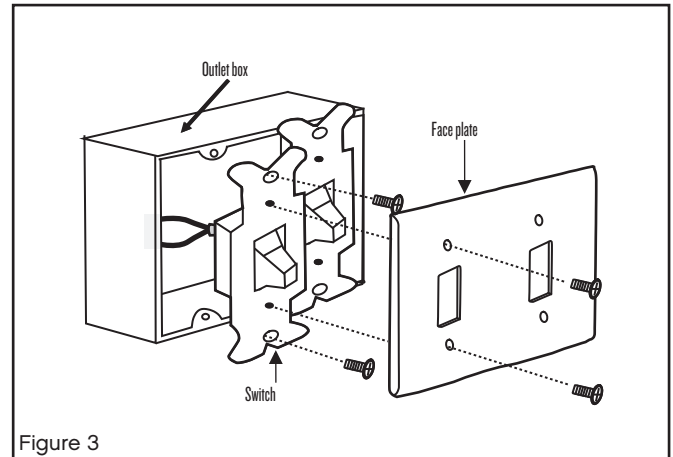

Figure 3
- 1 Remove the existing wall plate and old switch from the wall outlet box. (Fig. 3)
- 2 Slide the reversing switch (located at the top of the motor housing, refer to figure 3 on page 7) to opposite position, and turn fan on again. The fan blades will turn in the opposite direction and reverse airflow.
A DOWNWARD airflow creates a cooling effect as shown in Figure 3. This allows you to set your air conditioner on a warmer setting without affecting your comfort.